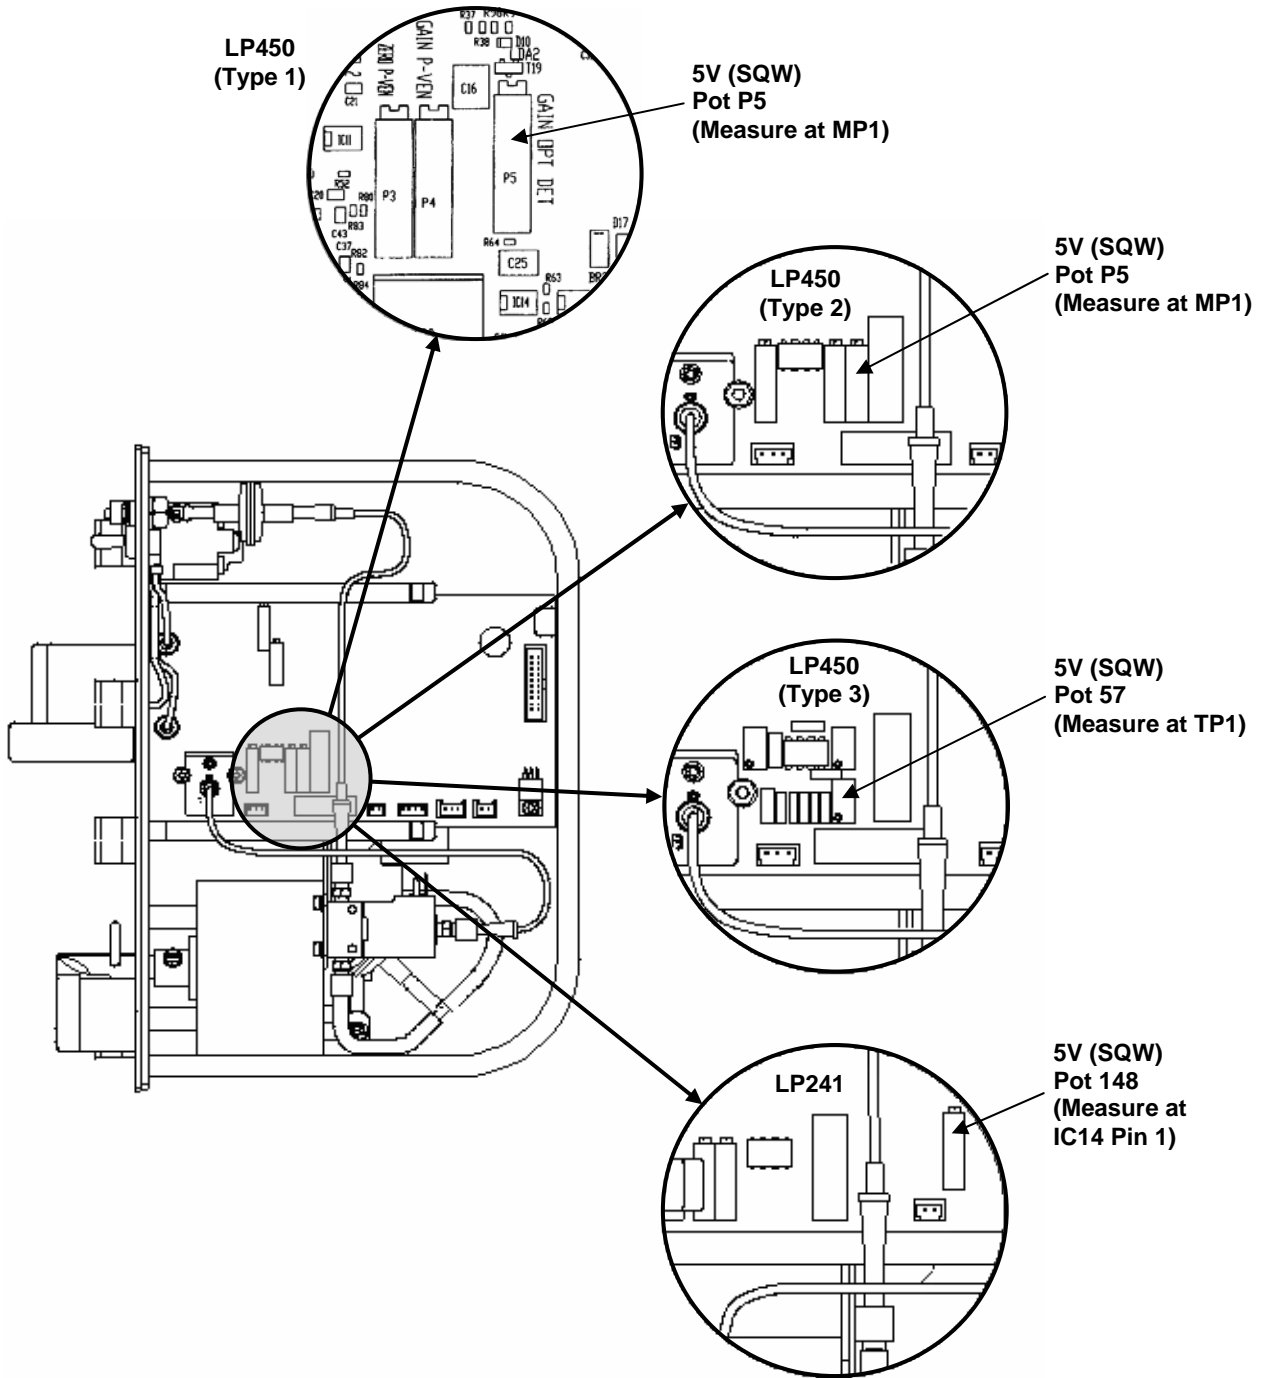

Figure 1 – 5V Square wave Pot Locations
4. Connect an oscilloscope to appropriate measuring point dependent upon the level detector circuit board being calibrated (See Figure 1 on page 2).
8. If the peak of the square wave is not 5 volts, then calibrate the peak of the square wave using the appropriate potentiometer dependent upon the level detector circuit board being calibrated (See Figure 1 on page 2).